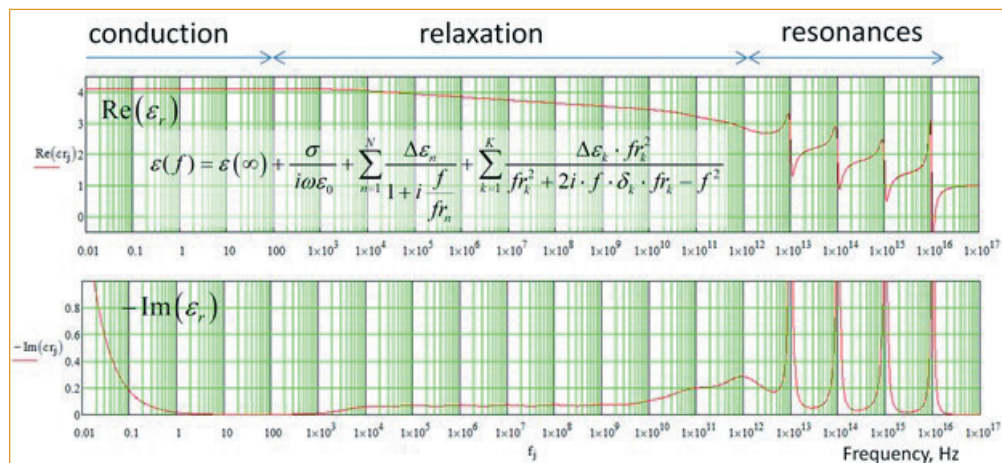

FIGURE 4. A universal dielectric model: the real part (top graph) and the negative imaginary part (bottom graph).
In general, dielectric properties can be described with the permittivity that is a complex function of frequency – always for real materials! We call the real part of the permittivity the dielectric constant (Dk). The ratio of the negative imaginary part of permittivity to the real part is called loss tangent (LT) or dissipation factor (DF). It describes the power loss to heat and dispersion. A universal dielectric model may look like the one in **FIGURE 4**.
The model in Figure 4 is of a real material constructed from fitting measured data up to 50GHz and guessed above it. This shows the different mechanisms contributing to the losses in dielectrics (imaginary part of permittivity) and dispersion.